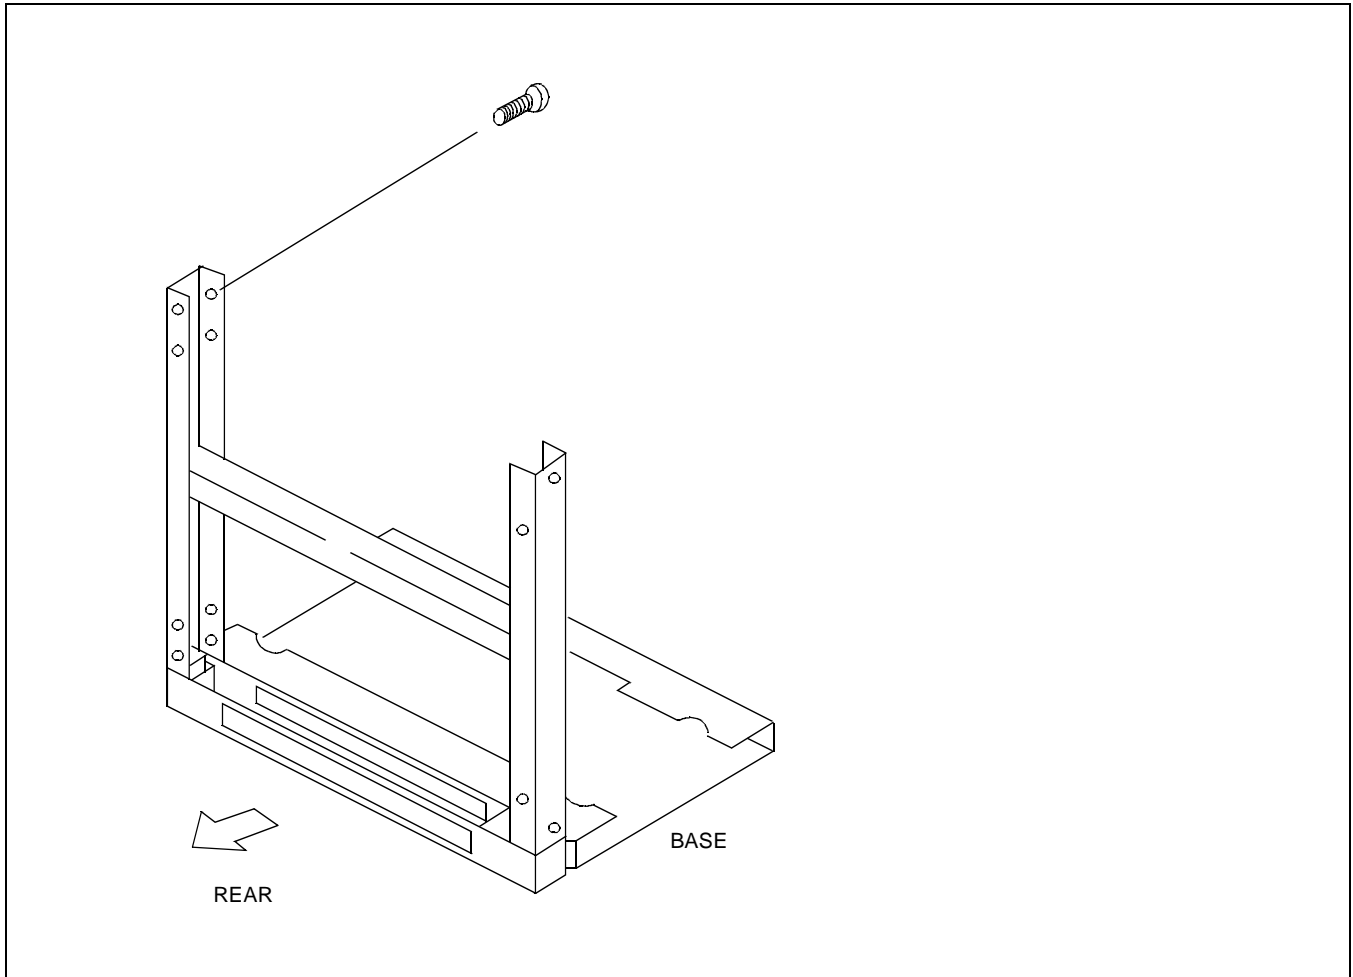

Figure 003-3 Installation of Screws onto RACK PARTS
- (b) For each PIM to be installed, install the 4 screws into the RACK PARTS on which the PIM(s) will be mounted as shown in Figure 003-3.